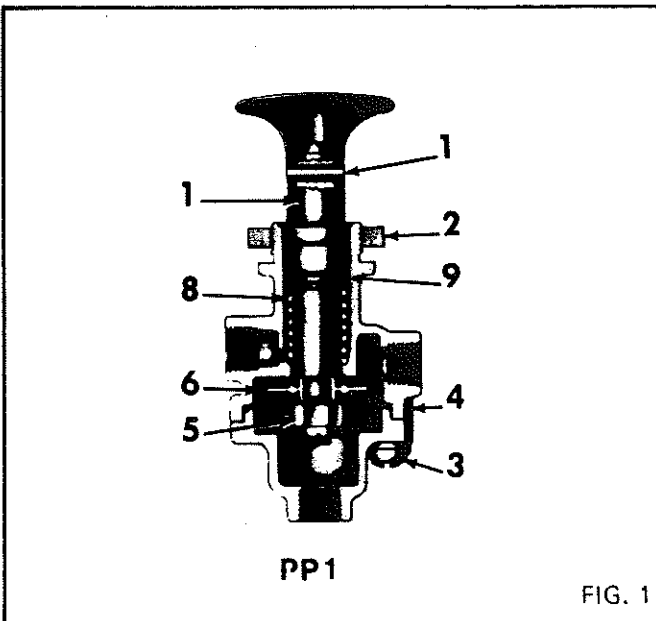

FIG. 1
1. Drive the button roll-pin (1) Figure 1 out with a punch and remove the button.
2. Unplumb the air connections, remove the panel mounting nut (2) and remove the valve.
DISASSEMBLY - PP-1, PP-8 and RD-3 (Figure 1)